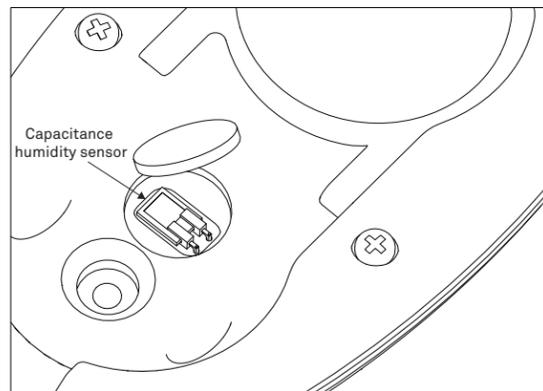

Figure 17 Capacitance humidity sensor
- Be careful of the capacitance humidity sensor (Figure 17) when placing the new filter. Use gloves to handle the filters as finger oils can be transferred to the filter and contaminate the filter.